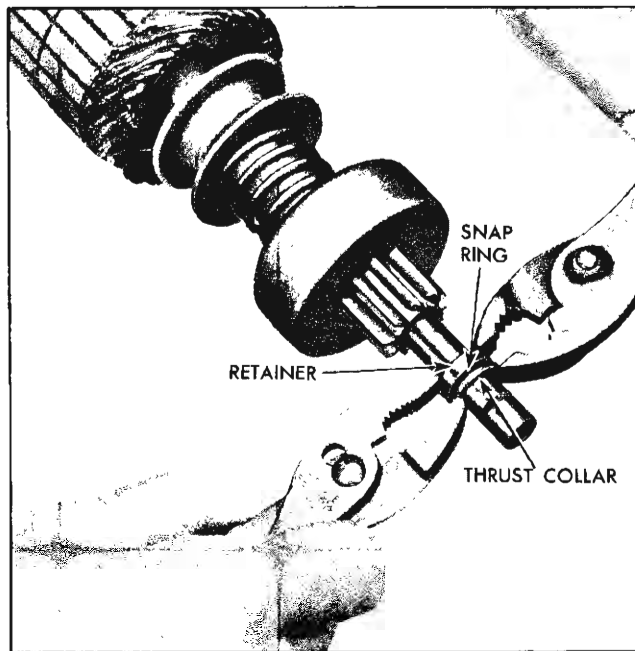

Fig. 11-12 Forcing Retainer Over Snap Ring
e. Assemble thrust collar on shaft with shoulder next to snap ring (Fig. 11-12).
f. Place armature flat on work bench, and position retainer and thrust collar next to snap ring. Then, using two pairs of pliers at same time (one pair on either side of shaft), grip retainer and thrust collar and squeeze until retainer is forced over snap ring (Fig. 11-12).